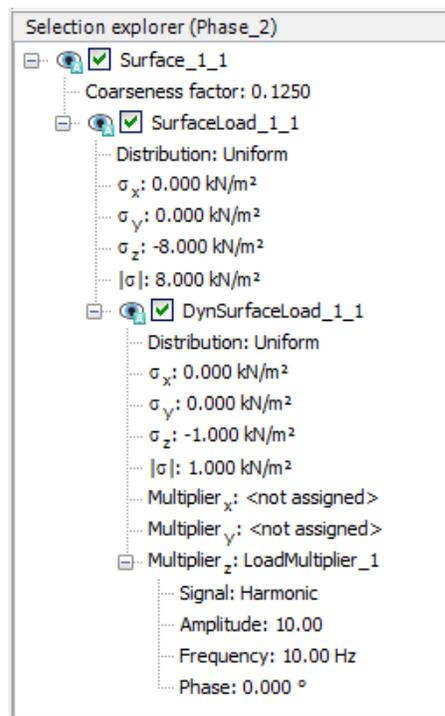

Figure 122: Applied load in the Phase\_2
7. In the **Staged construction mode** activate the dynamic component of the surface load. Note that the static component of the load is still active (see Figure 122 (on page 151)).